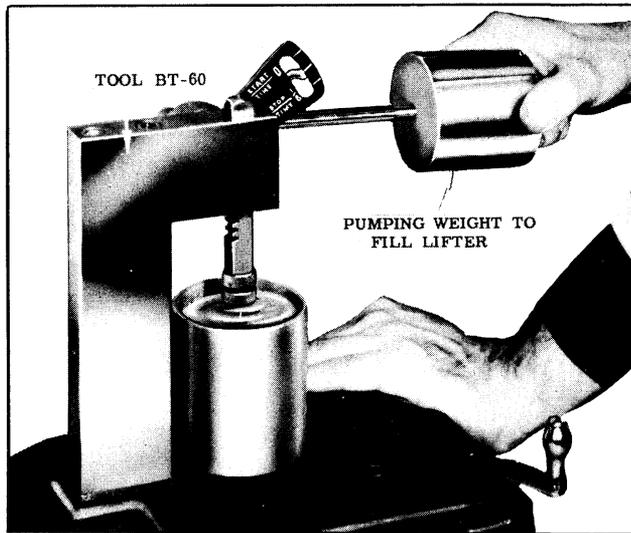

Fig. 8-18 Filling Lifter
4. Fill lifter by pumping until sponginess has disappeared and air bubbles have ceased. (See Fig. 8-18) If lifter will not pump up, it will be necessary to rebuild or replace lifter.